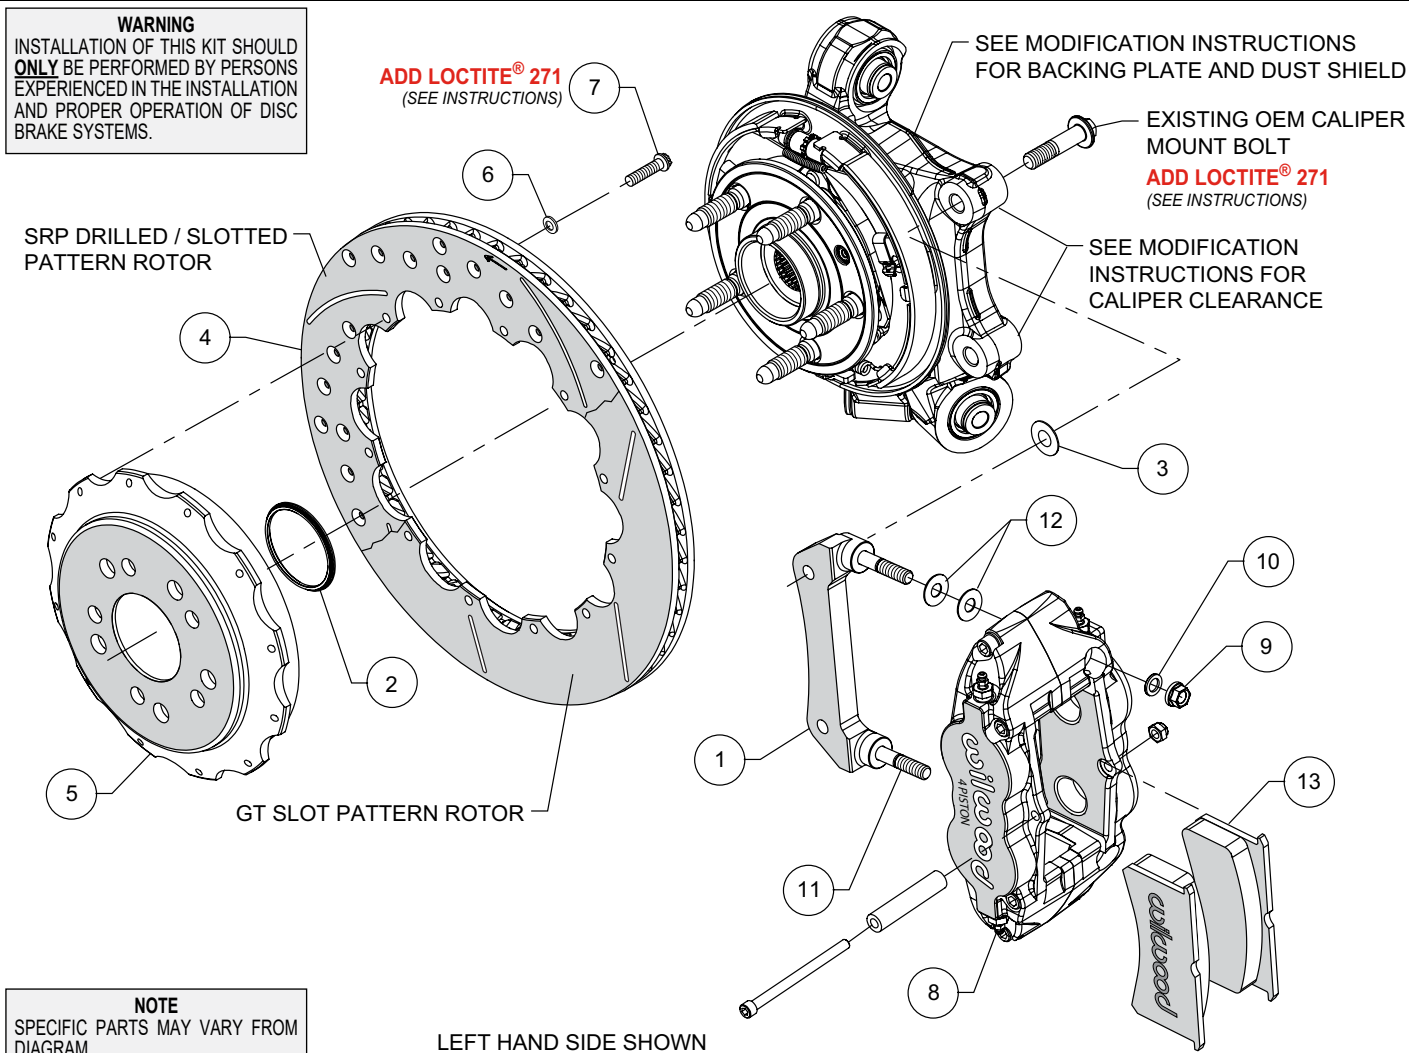
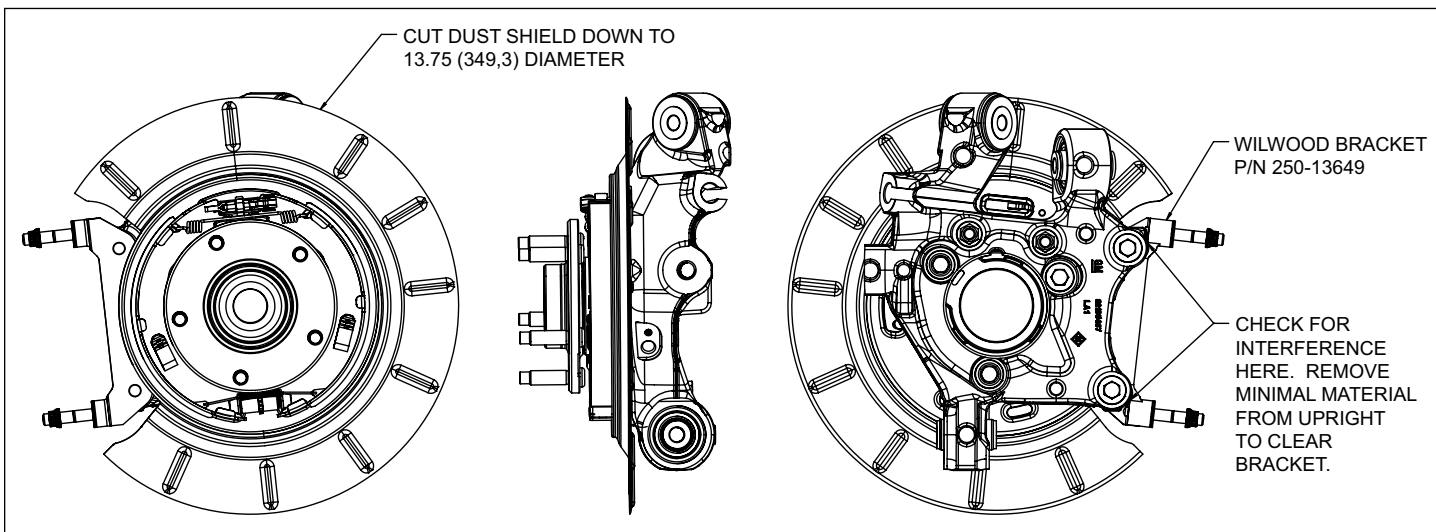
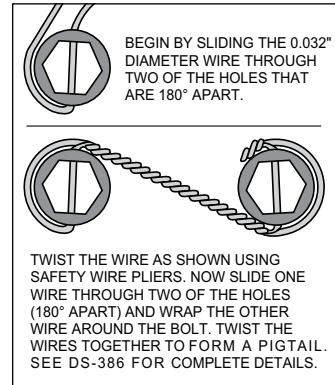

Figure 1. Typical Installation Configuration
Figure 3. Backing Plate / Dust Shield / Caliper Mounting Tabs Modifications
Figure 4. Safety Wire Diagram
•The rear backing plate/dust shield and OE caliper mounting tabs needs to be modified as shown in Figure 3 to clear the new Wilwood rotor and caliper mounting bracket (1). **NOTE:** It is recommended that the backing plate be removed before modification, and the modifications be performed by a qualified machine shop. After backing plate removal, cut the dust shield to 13.75" diameter as shown in Figure 3. Temporarily mount the caliper mounting bracket as shown in Figures 1 and 3. Figure 3, Examine the fit of the bracket against the OE caliper mounting tabs and remove just enough material so that the bracket mounts flush.
**NOTE:** Numbers in parenthesis refer to the parts list and Figure 1 on the preceding pages.
•The caliper mount bracket (1) should initially be installed with clean, dry threads on the mounting bolts. Orient the bracket as shown in Figure 1, and install using OEM caliper mount bolts. Initially place one .033" thick shim (3), on each bolt between the bracket and upright, Figure 1. Temporarily tighten the mounting bolts. **NOTE:** The bracket must fit squarely against the mount bosses on the upright. Inspect for interference from casting irregularities, machining ridges, burrs, etc. Later, after the caliper alignment has been checked, the mount bolts will be secured using red *Loctite*® 271.
•Orient the rotor (4) and the hat (5) as shown in Figure 1 and Photo 1. Attach rotor to hat using bolts (7) and washers (6). Apply red *Loctite*® 271 to the bolt threads and torque to 140 **in-lb** using a criss-cross pattern. For an added measure of security, the bolts may be safety wired using standard 0.032 inch diameter stainless steel safety wire as shown in Figure 4. Please refer to Wilwood's data sheet DS-386 (available at [www.wilwood.com/Pdf/DataSheets/ds386.pdf](http://www.wilwood.com/Pdf/DataSheets/ds386.pdf)) for complete safety wire installation instructions.
•Slide the rotor registration adapter (2) onto the axle register on the axle hub with the smaller O.D. facing outward, Photo 2. Align the correct hole pattern in the hat with the stud pattern on the axle hub and slide into place, Figure 1. **NOTE:** The hat must fit flush against the axle hub flange or excessive rotor run out may result. Install three lug nuts (finger tight) to keep the hat/rotor assembly in place while continuing with the installation.
- Initially place two .035" thick shims (12) on each stud (11) as shown in Figure 1 and Photo 3. Mount the caliper (8) onto the bracket (1) using lock nuts (9) and washers (10), Figure 1. Temporarily tighten the lock nuts and view the rotor through the top opening of the caliper. The rotor should be centered in the caliper, Photo 4. If not, adjust by adding or subtracting shims (3) between the bracket and the upright. Once the caliper alignment is correct, remove the bracket mounting bolts one at a time, apply red *Loctite*® 271 to the threads, and torque to 65 ft-lb.